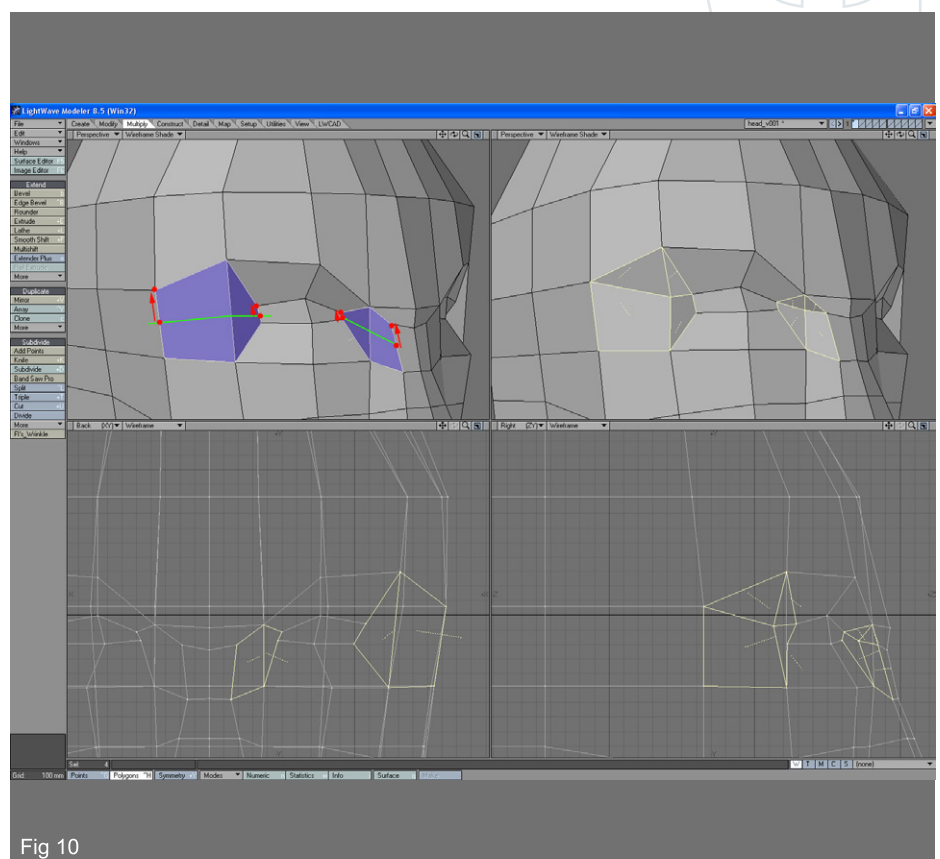
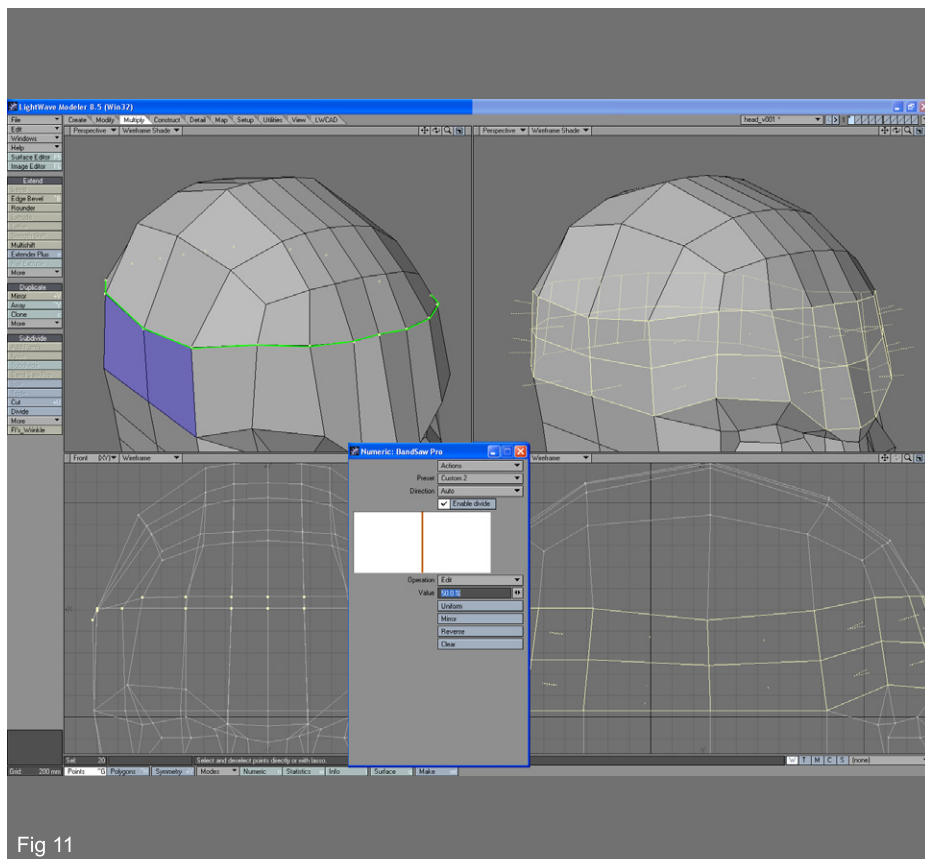

Fig 10
Fig 11
10. To fix areas around the eyes select most left two polygons in image and use Cut tool to cut them in half (green line in fig. 10). Weld points on both left and right side of cut polygons (red lines in fig. 11). Do the same thing on two polygons near the nose. Finally, drag points to adjust the shape of the areas around the eyes.
11. To add more details on the forehead select points marked in green line in Fig. 11 and move them up. Select two polygons marked with blue colour and use Band Saw Pro tool to divide them on 50%.